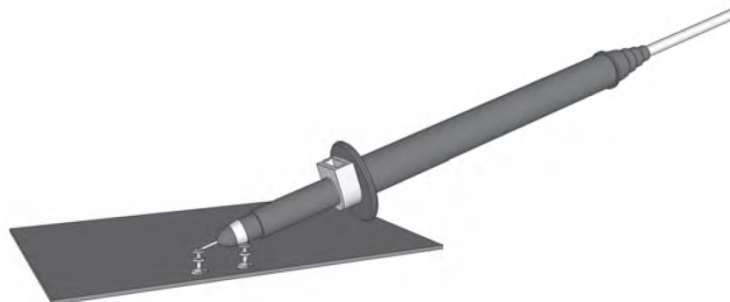

Figure 4. Proper Measurement Technique for Measuring Ripple
**NOTE:** When measuring the input or output voltage ripple, care must be taken to avoid a long ground lead on the oscilloscope probe. Measure the input or output voltage ripple by touching the probe tip directly across the  $V_{CC}$  or  $V_{IN}$  and GND terminals. See Figure 4 for proper scope probe technique.